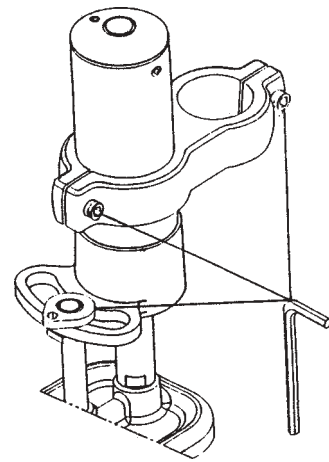

Figure 4
6. Using (5 mm) allen key provided, firmly tighten 3 points as shown in figure 4.